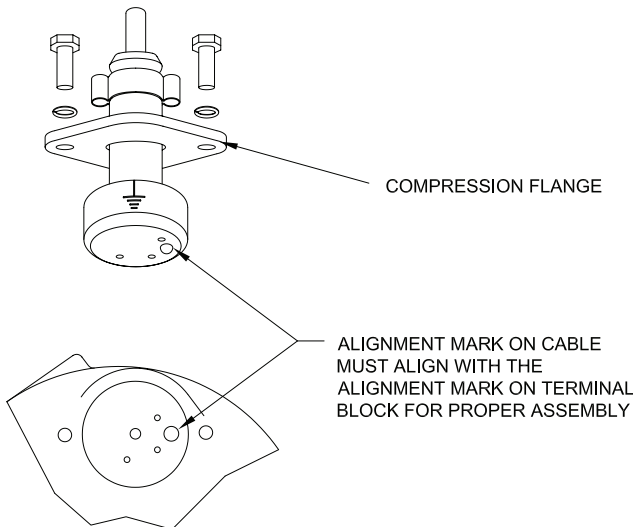

FIGURE 2
Power/Control Cable- Insert female end of cable plug into housing bore aligning alignment mark with hole in terminal block see Figure 2. Tighten bolts on compression flange until flush with motor housing.
- Install power cord and level control cord to pump. Make sure alignment mark on cord aligns with alignment mark on terminal block. Use hardware provided to mount cord flange to pump. Note that one connection has small pins and one as large pins. Install the proper cord into the proper socket. (Fig. 2 previous page)